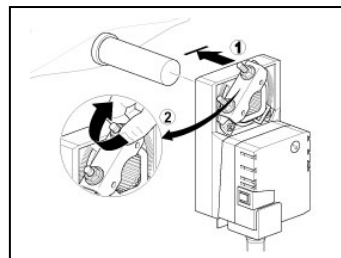

Fig 1
4. Loosen the Allen set screw on the white plastic Half Gear to damper shaft. Drill out the four (4) rivets, which attach the lower segment of the hat section to the damper shell.
8. Press the release button on the actuator and rotate the shaft clamp so that the line on the top of the shaft is perpendicular to the right hand side of the clamp viewed from the damper inlet. Tighten the shaft clamp nuts. **See Fig. 1**
3. Place the 3/4" spacer washer onto the damper shaft, rotate the shaft to close the damper, and place the new 101AHDM actuator over the shaft. Hand tighten the clamp nuts. **See Fig. 1**